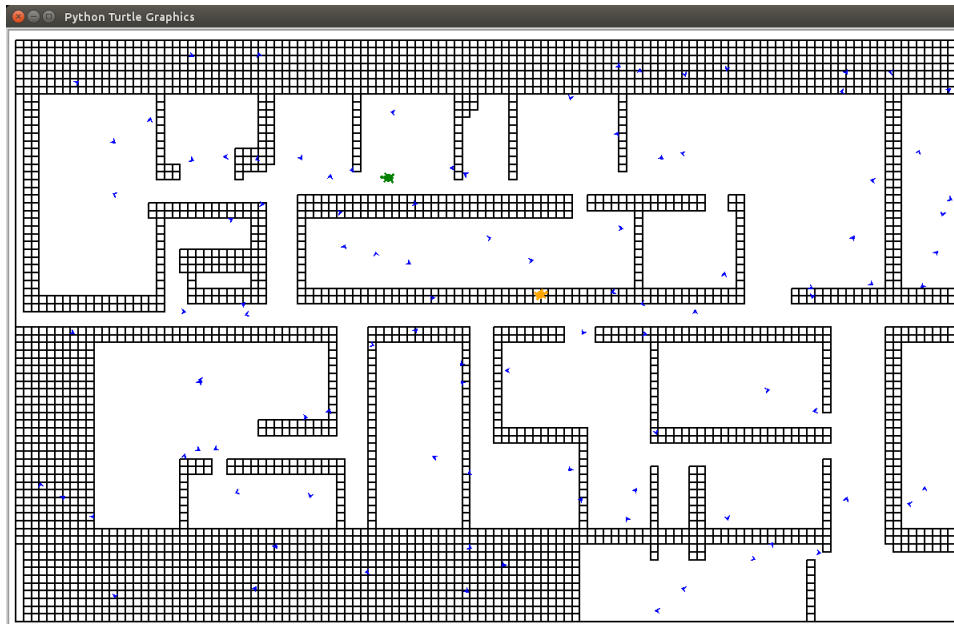

Figure 5: Maze map in bird's eye view.
4. More specifically, we choose a rectangle region with width 120, height 75, and bottom left corner of the region is at position $(x, y) = (-85, 45)$ in Gazebo. Because of that, the map we have only represent that region as shown in fig 5. Therefore, all the particles we choose should from that region. A point $p = (x, y)$ in the gazebo simulator can be converted to a point $\bar{p} = (\bar{x}, \bar{y})$ in python map as shown below:
When the Particle filter is running, you will be able to see a python turtle window pop up with the map in it as shown in figure 5. You should be able to see two turtles in the map, which corresponds to the actual and estimated state of the vehicle. The actual state of the vehicle is represented by the green turtle and the yellow turtle represents the estimated state of the vehicle. The estimated particles are represented by blue arrows. If your implementation is correct, you should be able to see the particles (blue arrows) converge to the actual position of the vehicle (green turtle).